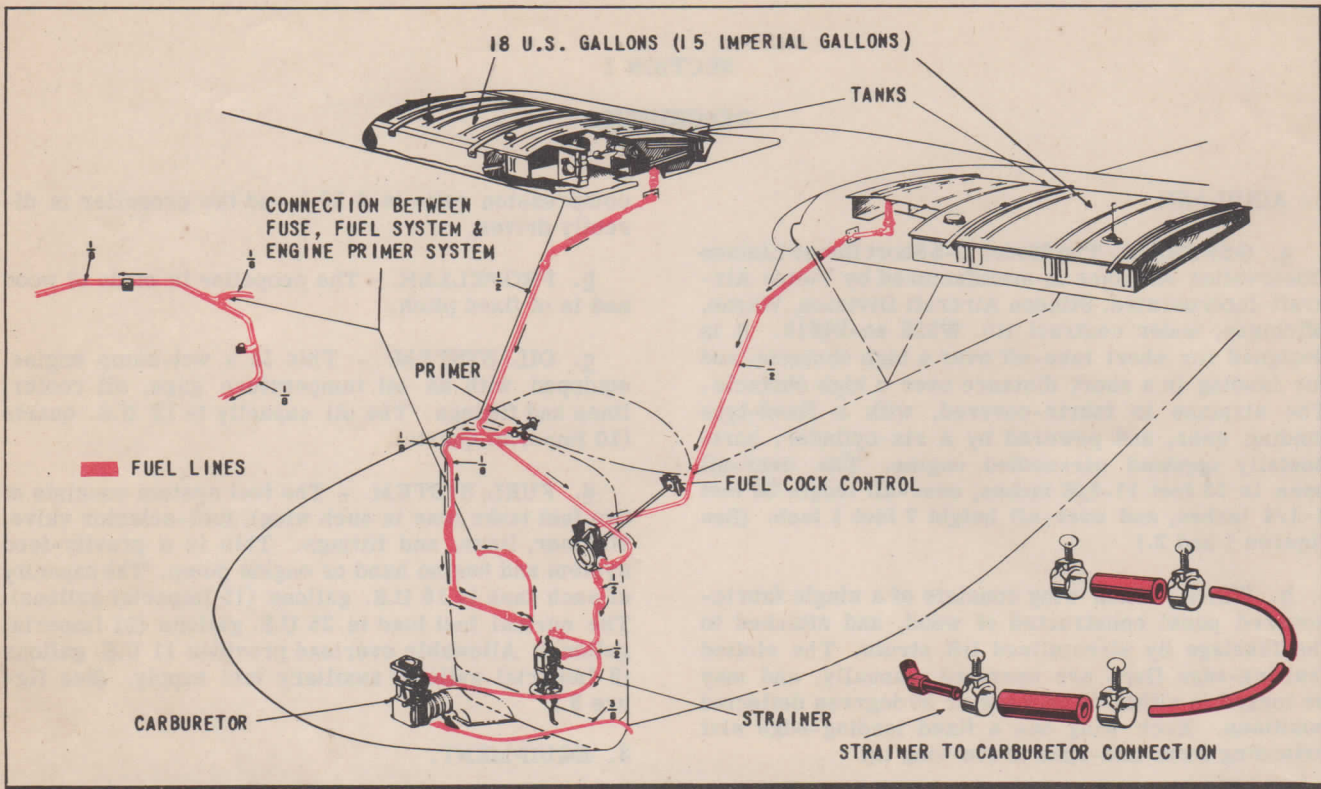

Figure 3 - Fuel System Diagram
d. **FUEL SYSTEM.** - The fuel system consists of two fuel tanks (one in each wing), fuel-selector valve, strainer, lines, and fittings. This is a gravity-feed system and has no hand or engine pump. The capacity of each tank is 18 U.S. gallons (15 Imperial gallons). The normal fuel load is 25 U.S. gallons (21 Imperial gallons). Allowable overload provides 11 U.S. gallons (9 Imperial gallons) auxiliary fuel supply. (See figure 3.)